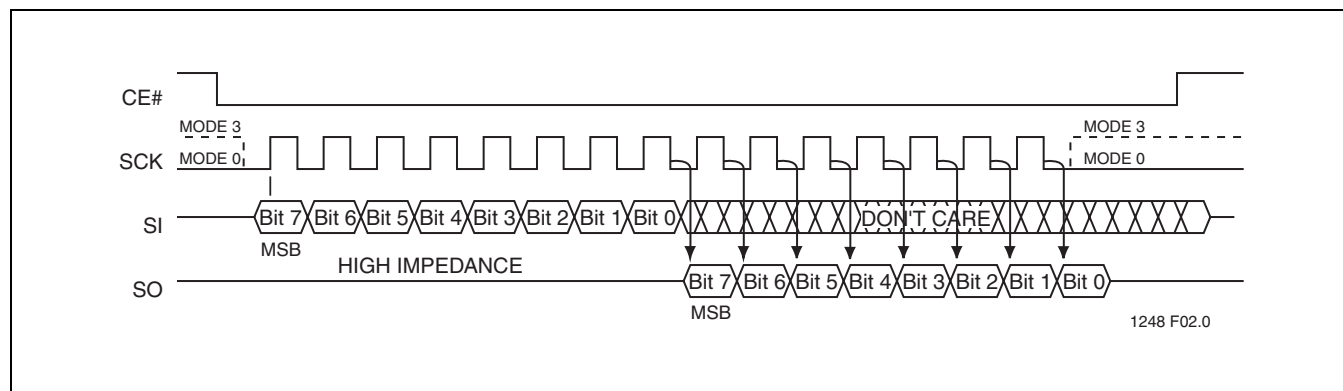

FIGURE 2: SPI PROTOCOL
The SST25LF080A supports both Mode 0 (0,0) and Mode 3 (1,1) of SPI bus operations. The difference between the two modes, as shown in Figure 2, is the state of the SCK signal when the bus master is in Stand-by mode and no data is being transferred. The SCK signal is low for Mode 0 and SCK signal is high for Mode 3. For both modes, the Serial Data In (SI) is sampled at the rising edge of the SCK clock signal and the Serial Data Output (SO) is driven after the falling edge of the SCK clock signal.